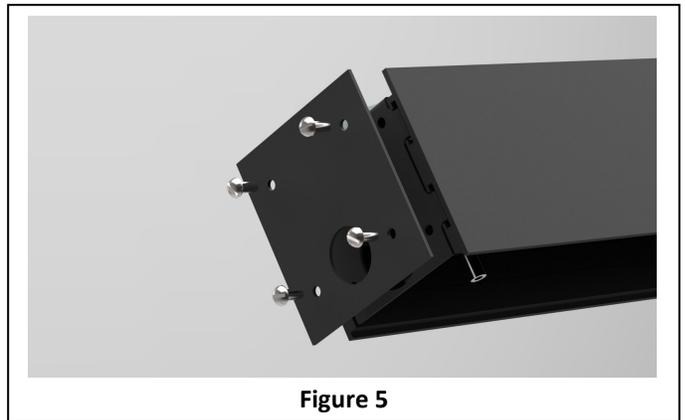

Figure 5
Step 6. Loosen screws and remove the conduit plate from the end of the fixture. (Fig. 5)